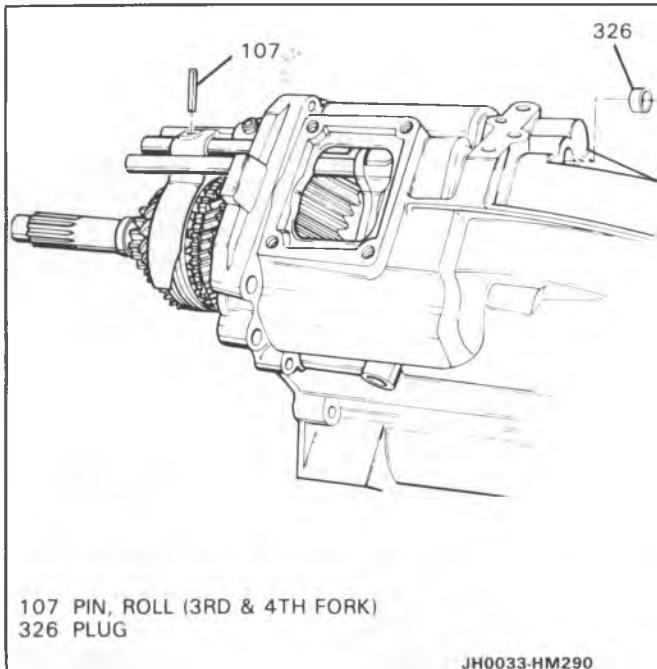

Figure 12 Removing 3-4 Rail Plug and Roll Pin
18. Shift Shaft (116), shift shaft socket assembly (123) and finger (121).
19. 3rd and 4th shift fork roll pin (107) (Figure 12).